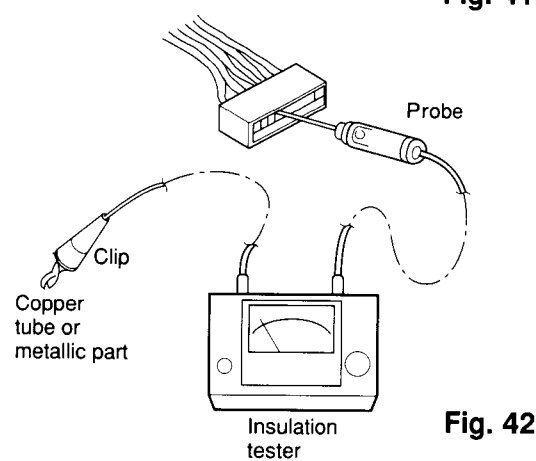

Fig. 42
- Disconnect the connector of the desired electric part from terminal plate, P.C.B. Assy, etc. (Fig. 42)